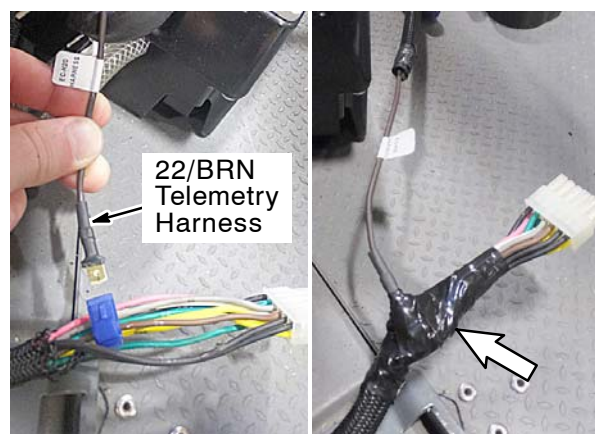

Fig. 15
- C. Connect 22/BRN wire labeled “ec- H2O Harness” from telemetry harness (16) to T-Tap connector (Fig. 15). Wrap harness with electrical tape.